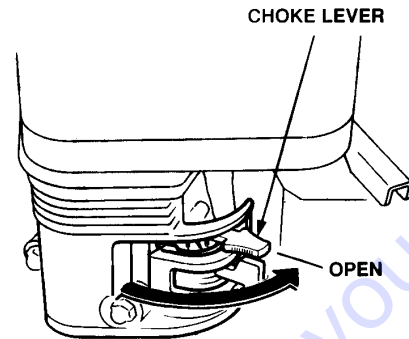

Figure 29. Choke Lever Open
4. Place the *choke lever* (Figure 29) in the "OPEN" position.